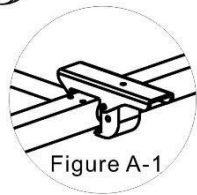

Figure A-1
1. Folding: The treadmill is foldaway. Lift the end of the main frame and fold upwards until the connecting bar rebound to the cover of cylinder tube. Positioning card pedal must be withhold horizontal tube of base support (See figure A-1)